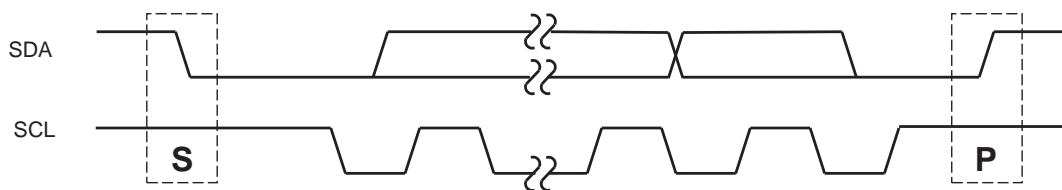

Figure 7. Start and Stop conditions
Each transmission consists of a START (S) condition signaled by a master, followed by the MPR121's 7-bit slave address plus R/W bit, a register address byte, one or more data bytes, and finally a STOP (P) condition (Figure 7). Both SCL and SDA remain high when the interface is not busy. A master signals the beginning of a transmission with a START (S) condition by transitioning SDA from high to low while SCL is high. When the master has finished communicating with the slave, it issues a STOP (P) condition by transitioning SDA from low to high while SCL is high. The bus is then free for another transmission.